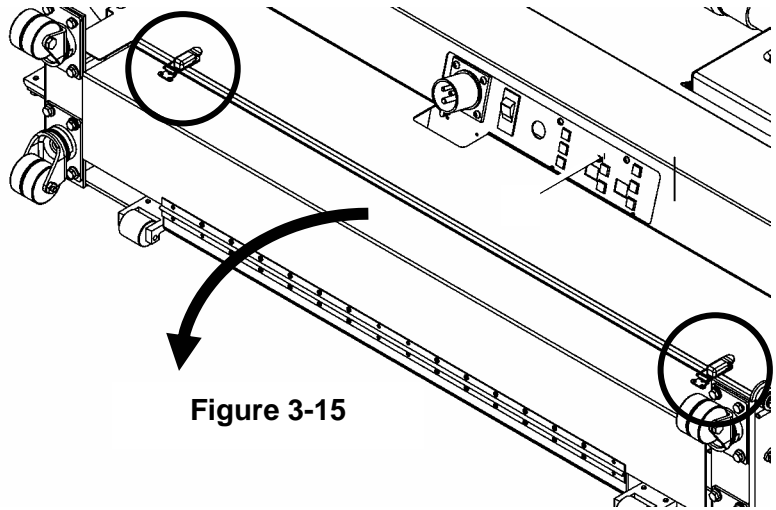

Figure 3-15
1. Unhinge the clasps holding the oil tank cover to the hood, as shown in figure 3-15 and open the oil tank compartment door to access the oil tank.